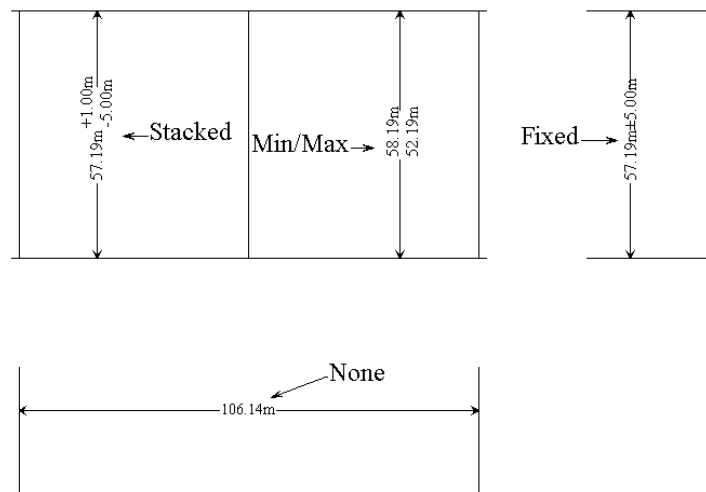

Figure 2-24 - Dimension Tolerances
**Lower and Upper Tolerances:** Enter a “Lower” and “Upper” tolerance. In Figure 2-24 each tolerance type is displayed. Each tolerance has a “Lower” value of 5m and an “Upper” value of 1m.
Dimension text deals with the properties of True Type text placed. Select the font required, type in the height required - which will be relative to the size of the drawing, type in the aspect ratio required (width relative to height), style required (bold, italics, underlined), and line spacing. The line spacing sets the spacing (as a percentage of one line height) between lines of text for stacked tolerance display (see Figure 2-24).